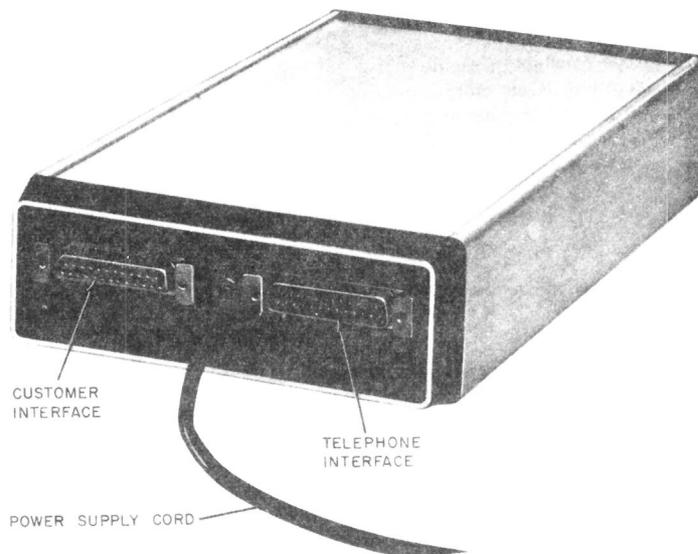

Fig. 3—Data Set 202T-Type, Rear View
2.07 The housing has two interface connectors and a power cord at the rear of the set (Fig. 3). One connector is a KS-19087-L6 type and provides the digital interface leads to the customer-provided terminal equipment. The other connector is a KS-19088-L22 type and provides the interface connections for the telephone network. The power cord is a 4-conductor, spade-ended type.